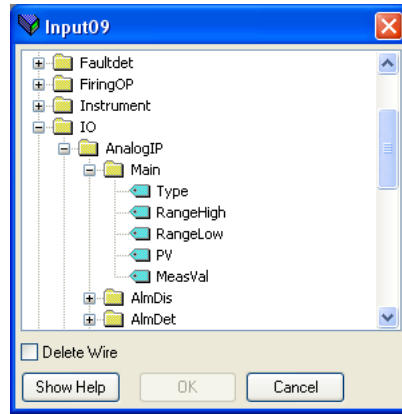

Figure 145 Browser window
1. Double click the next available position in the input or output data table and select the variable to assign to it. A pop-up (Figure 145) provides a browser from which a list of parameters can be opened.